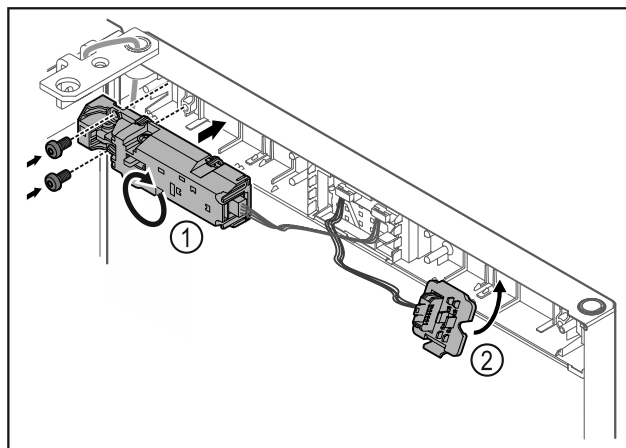

Fig. 21
- ▶ Turn the remote lock Fig. 21 (1) by 180° and fasten it on the opposite side.
- ▶ Snap in the plug holder Fig. 21 (2) on the opposite side.